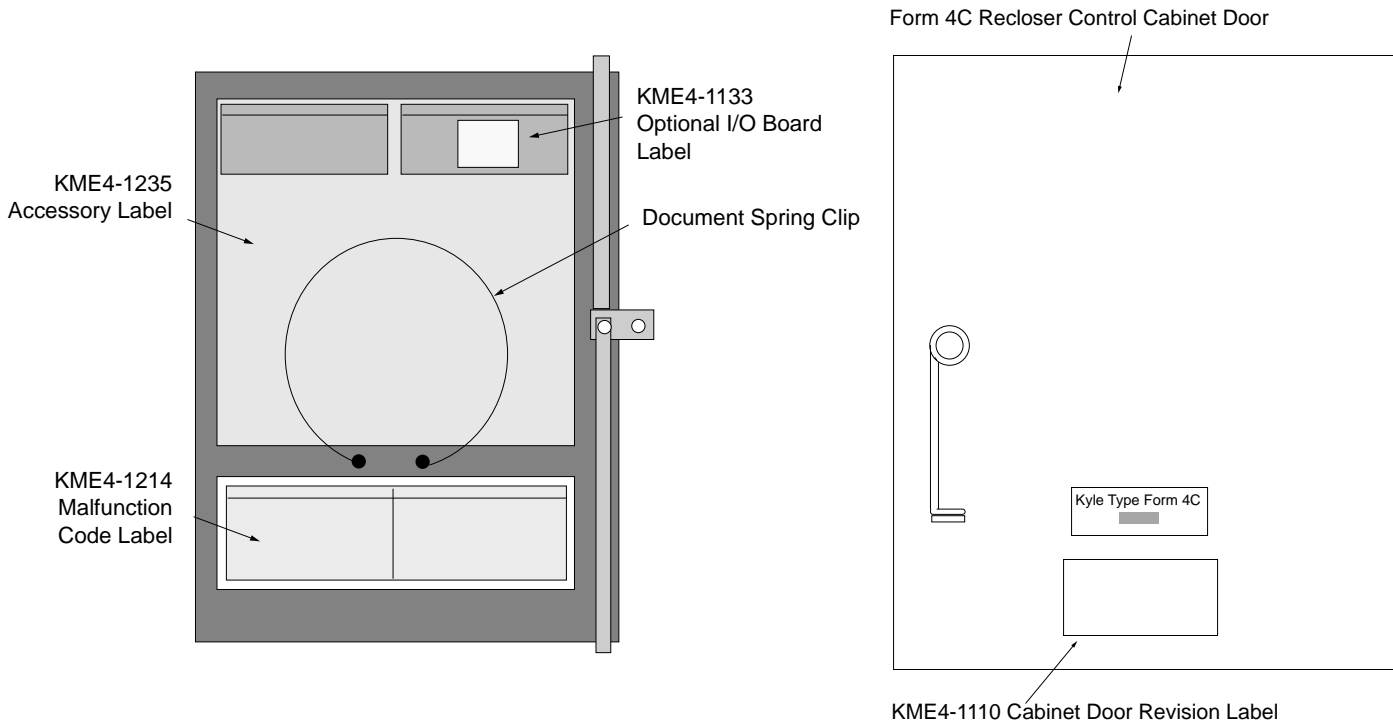

Figure 3. Application of labels inside of door panel (left), label application outside door panel (right).
3. Apply the new accessory label KME4-1235 to the inside door panel as shown in Figure 3.
4. Apply the malfunction code label KME4-1214 to the inside door panel as shown in Figure 3.
5. If the control is equipped with the optional I/O accessory, place label KME4-1133 as shown in Figure 3. (If optional I/O accessory is not installed, discard label KME4-1133).
Refer to Figure 3 for part locations. The view may differ slightly for different versions of the Form 4C control. Proceed as follows: